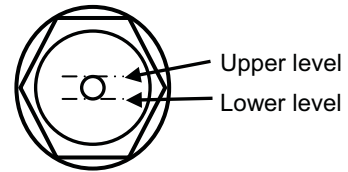

Fig. 6.2 Lubrication Oil Level
- (3) Check the oil level from the sight-glass of the oil level gauge. Then add the lubricant oil so that the level is the upper level. (See Fig. 6.2 and 6.4)
- (4) After you have checked that there are no depositions and fragments adhering to the O-ring attached to the plug, close the oil-inlet.
- (5) Be sure to check the gas leak after supplying the lubricant oil.